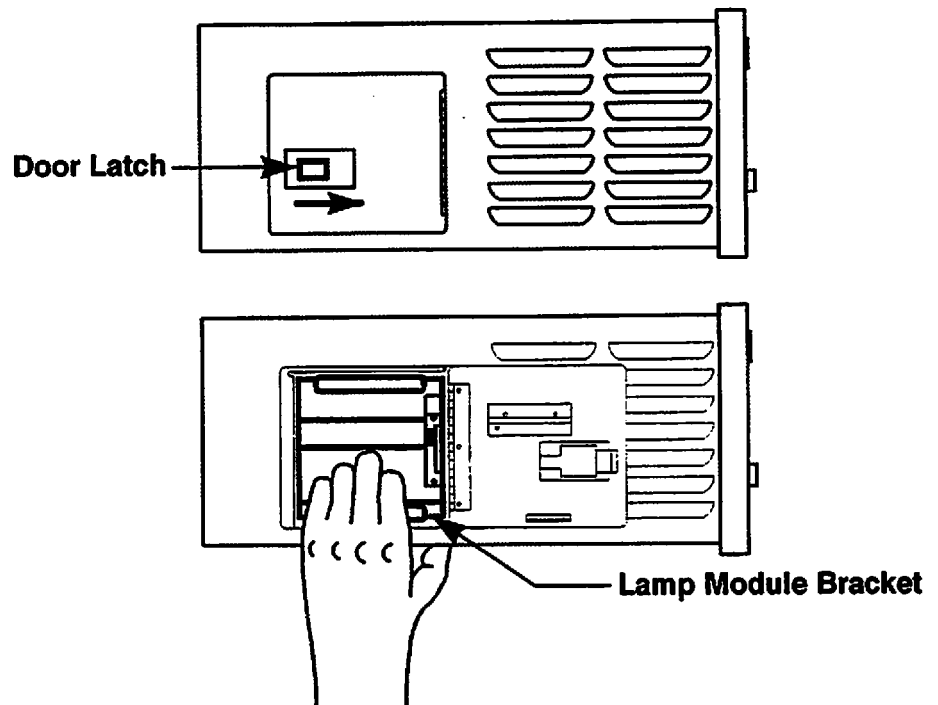

Figure 2-1 Replacing the Lamp Module
3. Access to the lamp module is achieved through the door on the left side of the chassis (reference figure 2-1).